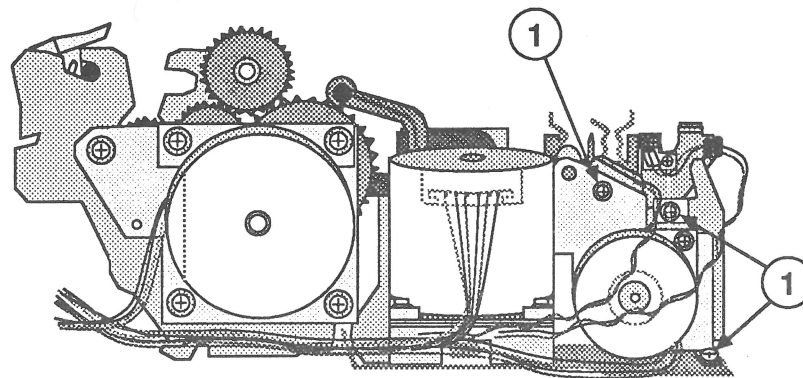

FIGURE 53
5. Remove the three Phillips screws that secure the color ribbon motor assembly to the mechanical module (Figure 53, #1).